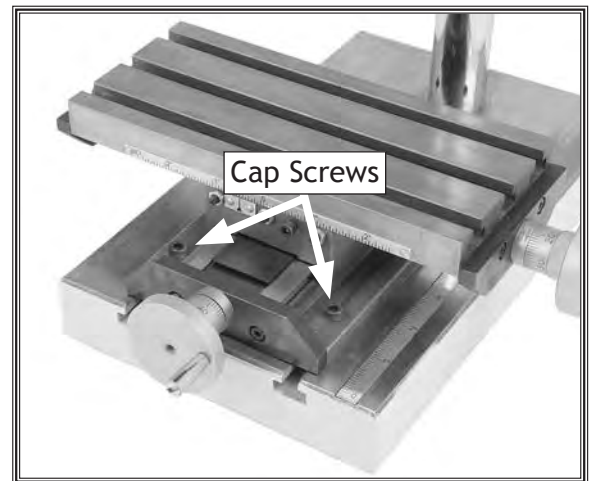

Figure 9. Cap screw and t-nut installation.
3. Slide (4) M6-1 T-nuts into the T-slots, place the compound slide table over the T-slot nuts, and loosely thread the (4) M6-1 x 25 cap screws as shown in **Figure 9**.